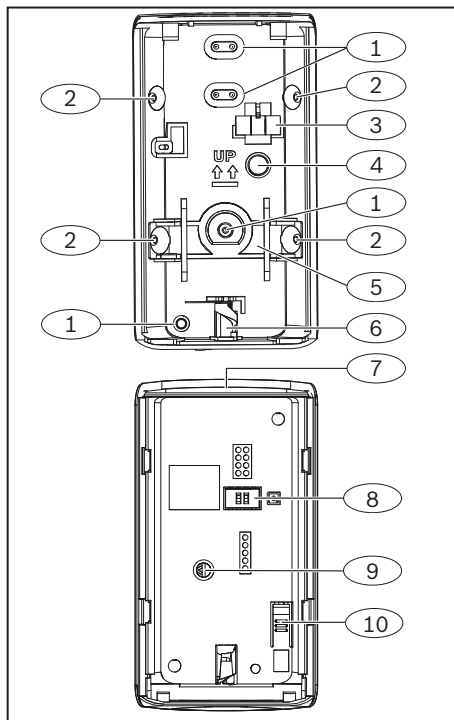

Figure 1.1: Detector base interior view (top), detector body interior view (bottom)
2. Identify mounting holes to use based on the mounting surface. Refer to Figure 1.1.